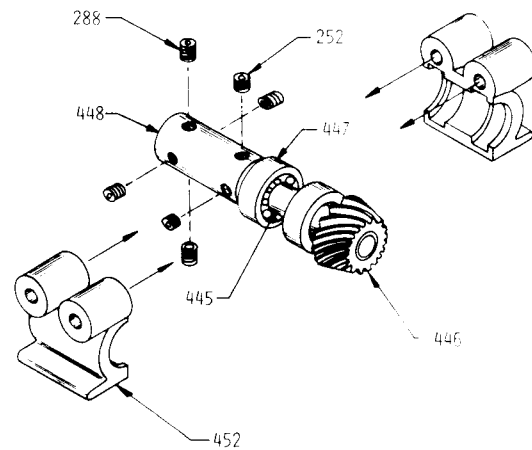

Figure 7
STEP 7 TAIL GEAR DRIVE ASSEMBLY - see Figure 7